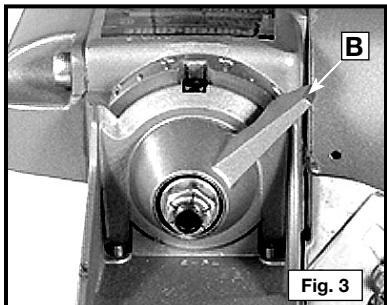

Fig. 3
1. Set the cutter lever (B) Fig. 3 to the "zero" position to allow it to accurately gauge the depth of cut. Turn the plane over.